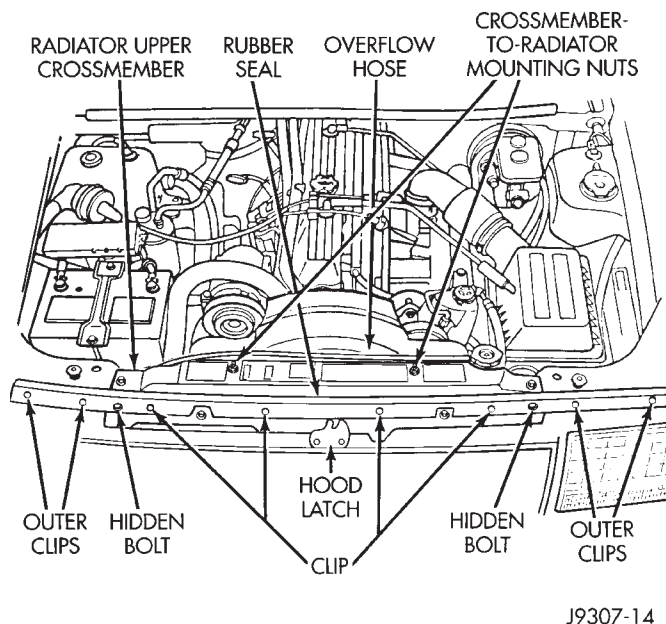

Fig. 35 Radiator Upper Crossmember—Typical
- (6) Remove the two crossmember-to-radiator mounting nuts (Fig. 35).
- (8) The radiator upper crossmember (Fig. 35) can be adjusted left or right through the use of slotted holes. Before removal, mark the original position of the crossmember.
- (9) Remove the remaining bolts securing the radiator upper crossmember to the body. Do not remove
the hood latch or hood latch cable from the crossmember. Lift the crossmember straight up and lay to the side (Fig. 35).
- (10) Remove the four lower condenser attaching bolts.
- (11) Remove the two upper condenser attaching bolts (Fig. 35).
- (12) Carefully remove the condenser from the vehicle.